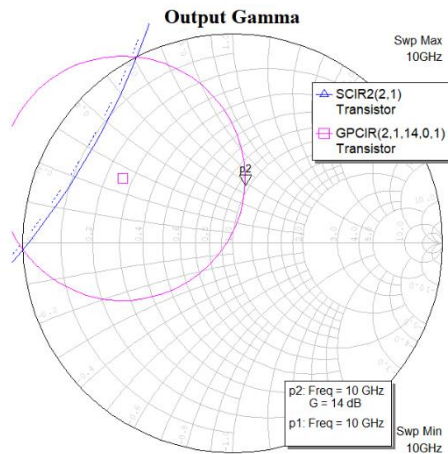

Fig. 3 Output stability circle and constant power gain circle crossing a $50\ \Omega$ load impedance.
- Another interesting version can be seen in Fig. 3. GPCIR corresponds to a 14 dB gain in this case.